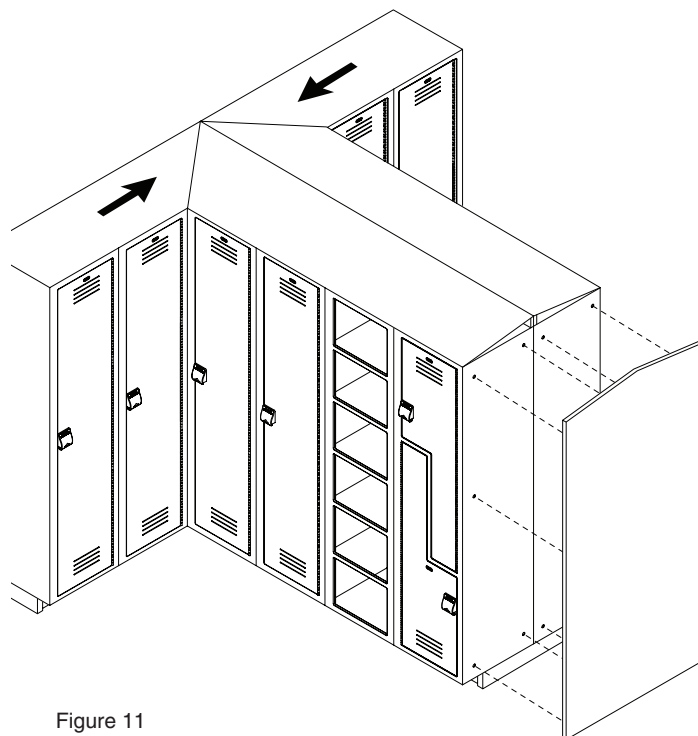

Figure 11
2. Fasten the end panel to the locker with the #6 x 5/8" screws provided (see Figure 11).